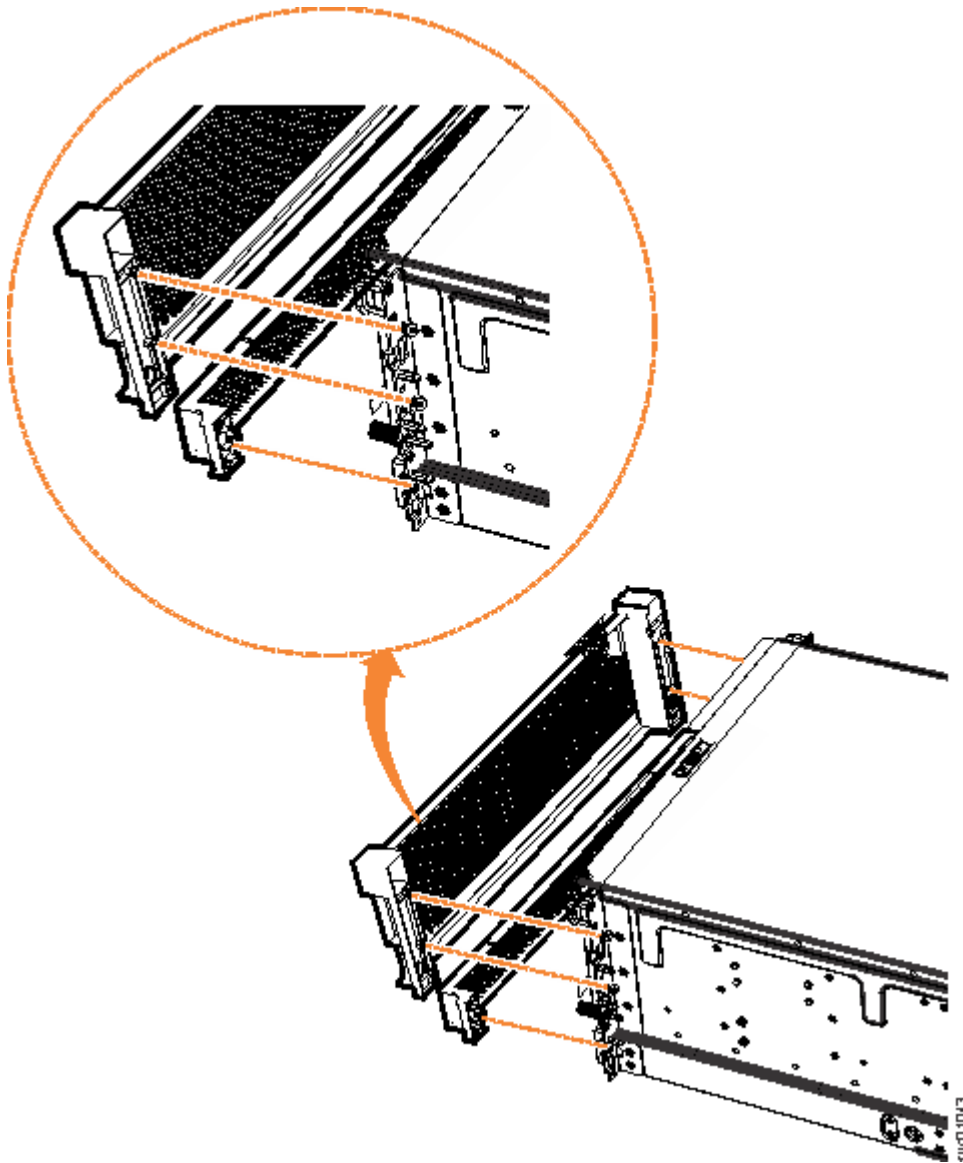

Figure 117. Remove fascia components from the expansion enclosure
2. Remove the front fascia by removing the two screws that attach the fascia to the flange on each side of the chassis, as shown in Figure 117 on page 174.
3. Gently pull on each side of the PSU fascia to remove it from the chassis, as shown in Figure 117 on page 174. The PSU fascia disengages from the slot and pin that connect it to each side of the chassis.